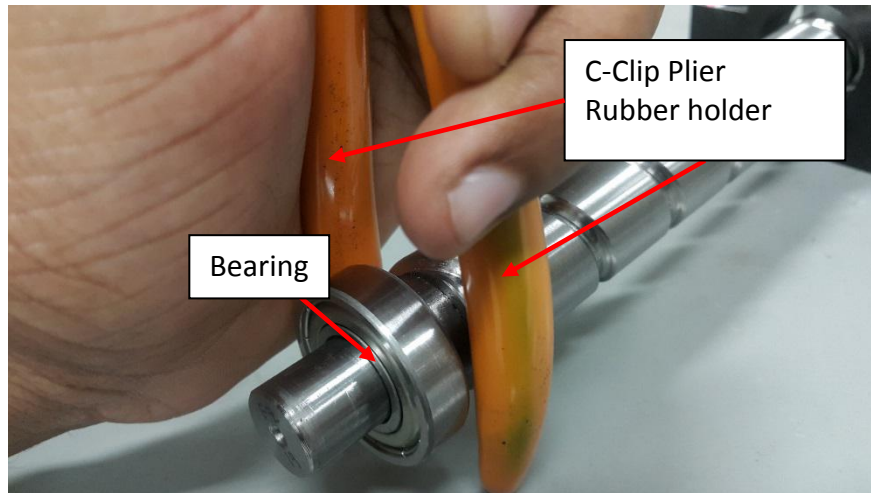
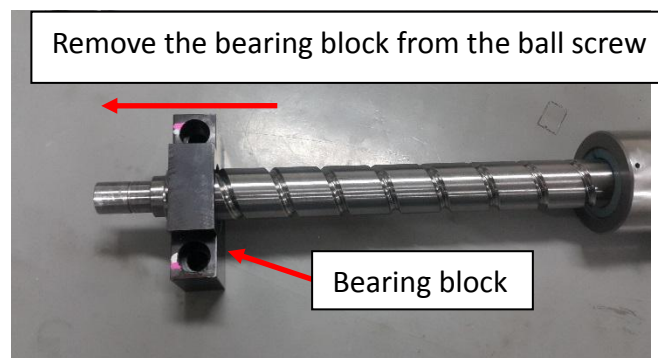

Figure 24 End Bearing
Figure 27 Bearing block
21. By using Plier rubber holder and gently remove the bearing as shown in Figure 24 to Figure 27.